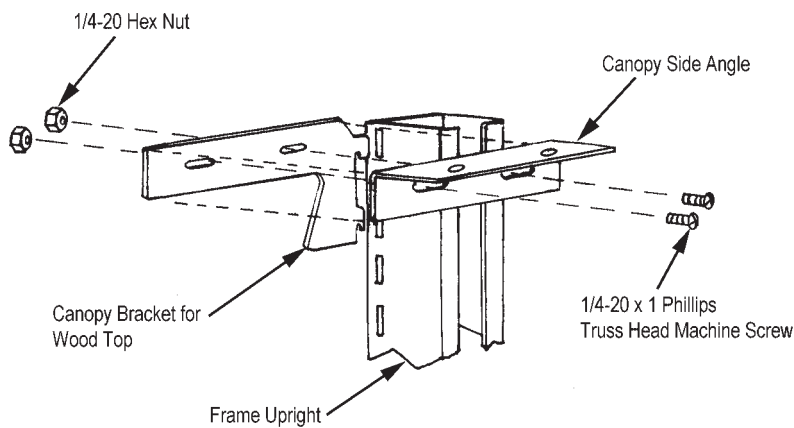

FIGURE 37
1. When a wood canopy top is used, install brackets in the top holes of the frame upright and secure canopy side angle brackets to canopy brackets with 1/4-20 x 1 Phillips truss head machine screws and 1/4-20 hex nuts. See Figure 37.